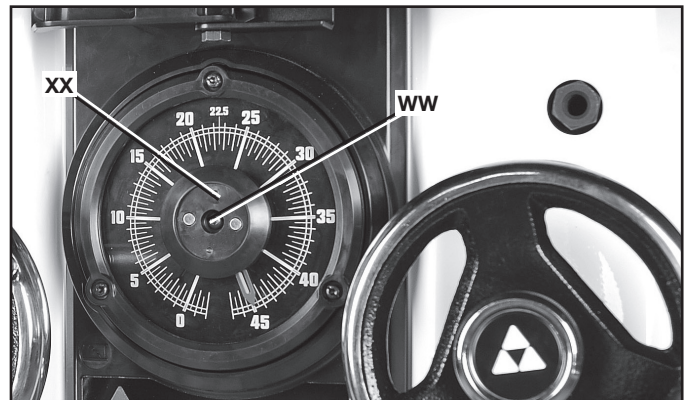

FIG. 44
2. Remove the screw (WW) Fig. 44 using a T20 wrench and remove the center cap (XX).
5. Replace center cap (XX) Fig. 44. Make sure the rubber O-ring stays seated behind cap.